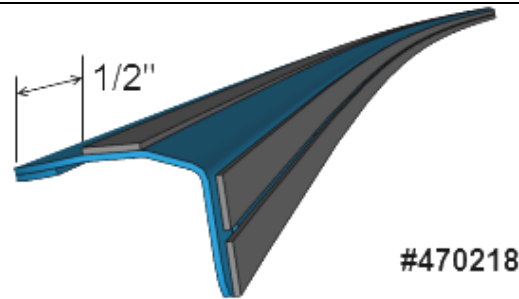

FIGURE 23
4. Apply three strips of double face self-adhesive tape along drip edge #470218 from one end up to the other end. The first strip should be placed about 1/2 inch from the edge as shown on FIGURE 23. The two other strips should be placed on each side of the drilled holes.